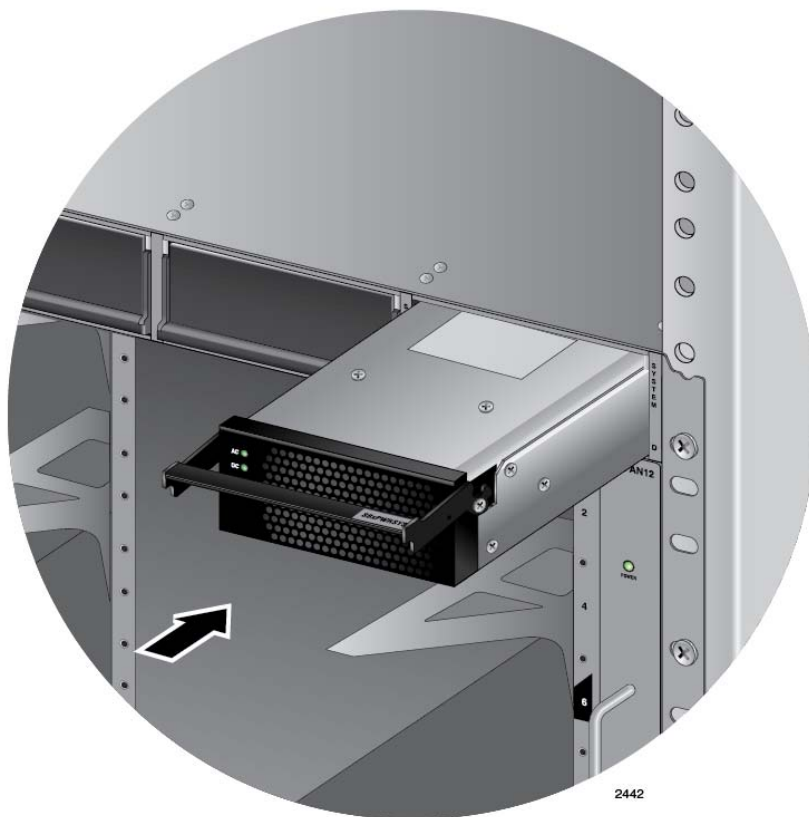

Figure 51. Inserting the AT-SBxPWRSYS1 or AT-SBxPWRSYS2 AC System Power Supply
5. Align and insert the power supply into the power supply slot. Figure 51 shows the power supply installed in slot D.